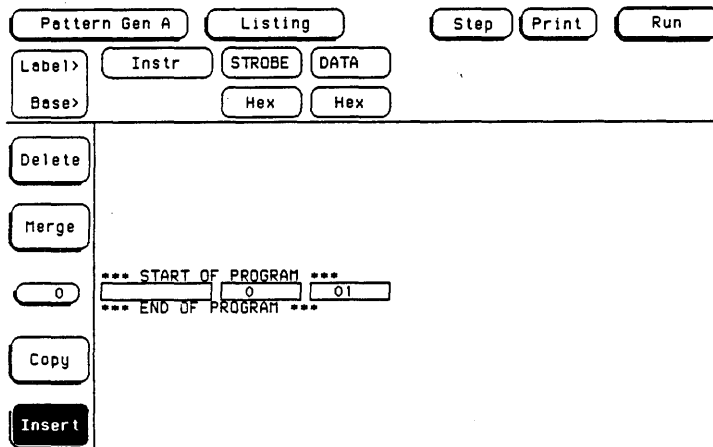

Figure 3-9. Insert New Program Line
3. Touch Insert as shown in figure 3-9.